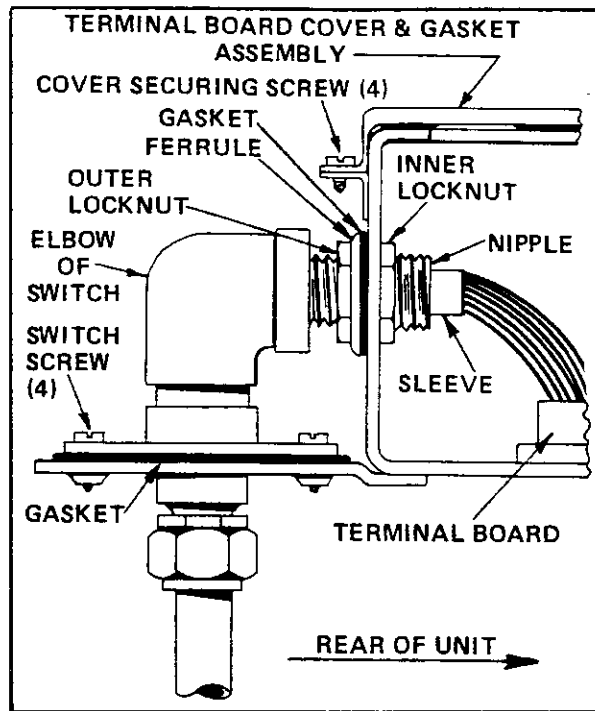

Figure 1. 385994 Hi-Lo Refill Switch Installation
6. Loosen the outer Hex Locknut on the Nipple that seals the Switch to the Terminal Box. After unthreading as far as possible, push Ferrule and Gasket away from the outer Terminal Box wall. (See Figure 1)